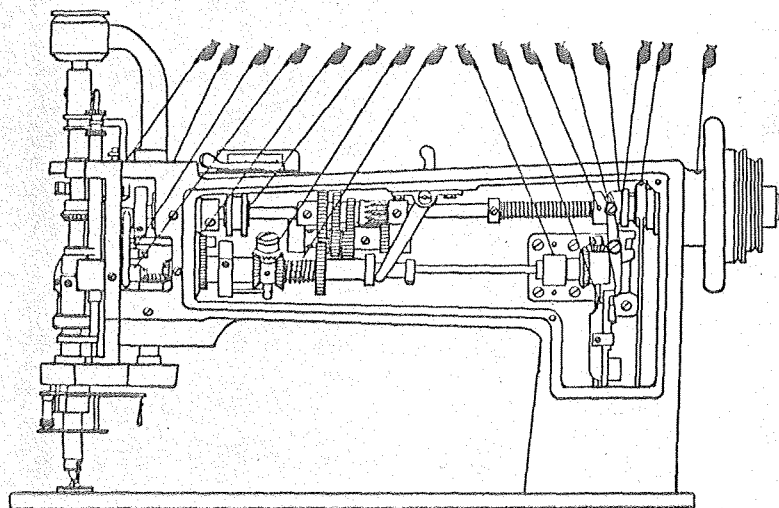
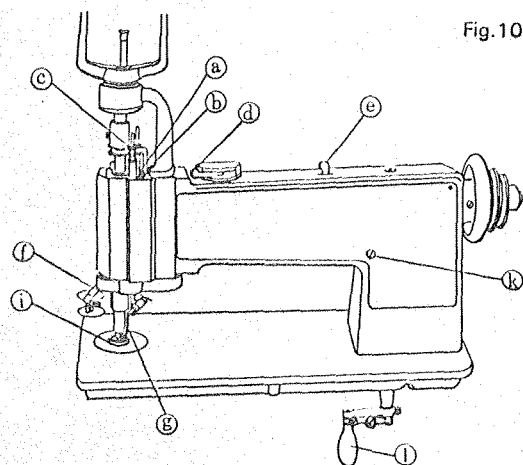

Fig.2
Fig. 10
Fig. 2 shows the arm cover removed for the purpose of oiling. This arm cover can be removed after taking out thumb screw, Fig. 10. If the machine is used continuously, oil should be applied at least once each day.
12. TO ADJUST THE LENGTH OF STITCH (Fig. 10)
The length of stitch is adjusted by screw (a), Fig. 10. To lengthen the stitch, loosen locking lever (b) and turn screw (a) over to the left or upward, then tighten locking lever (b).
13. TO REGULATE THE PRESSURE ON THE NIPPLE (Figs. 10 & 11)
The pressure on the nipple is regulated by the thumb screw (c), Fig. 10 at the top of the machine. To increase the pressure, turn this thumb screw over to the right or downward. To decrease the pressure, turn this thumb screw over to the left or upward.
16. TO ADJUST THE NUMBER OF THE BRAIDING (Fig. 10)
The number of the braiding can be adjusted by the lever ①, Fig. 10, which is located on the top of the machine frame. At the number 0, the gears do not engage and the machine will be operated as chainstitch, moss stitch or tape attaching embroidery.
17. TO ADJUST THE TENSION OF THE BRAIDING (Fig. 10)
It is the best for the normal braiding embroidery works that the braid spool bracket ①, Fig. 10 is set in the left while the handle ② is at the front.
To adjust as above, bring the handle ② to front, hold the handle by the knee as it does not turn round, then press the gear changing lever ③, Fig. 10 to the right and turn the braid spool bracket ① to the above position.
The additional adjustment will be made by the braid spool adjusting thumb nut ④, Fig. 7 and the braid leader guide ⑤, Fig. 10.
Then, set the lever ④, Fig. 10 to the number 1.
The looper will then be set in the opposite direction to that which is required for the chain stitch, or with the notch of the looper at the front of the needle while handle ①, Fig. 10 is at the front. Change the presser foot ① to the presser foot (spur).